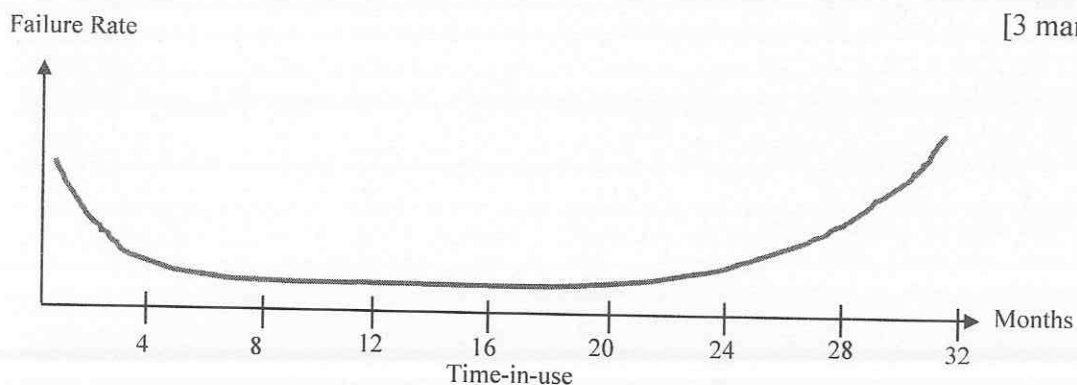

Figure Q4 – Failure rate versus time-in-use.
- (a) Briefly explain the difference between *wear out* and *over-stress* failure mechanisms in relation to electronic packaging. Give TWO (2) examples for each mechanism. [2 + 4 marks]
- (b) List THREE (3) types of accelerated testing on components or products and highlight the feature of each test. [6 marks]
- (c) The failure rate versus time-in-use for a 8 GByte memory module is shown in Figure Q4 (Statistics can be estimated based on accelerated environmental testing and transform). Suggest a warranty period for the module and briefly explain your choice. [3 marks]